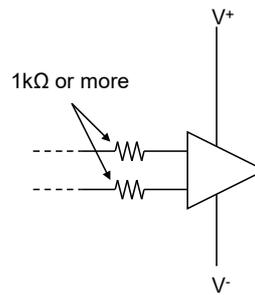

Fig.5
- / limiting a parasitic circuit operation by inserting a resistance ($1k\Omega$ or more) (Fig.5).